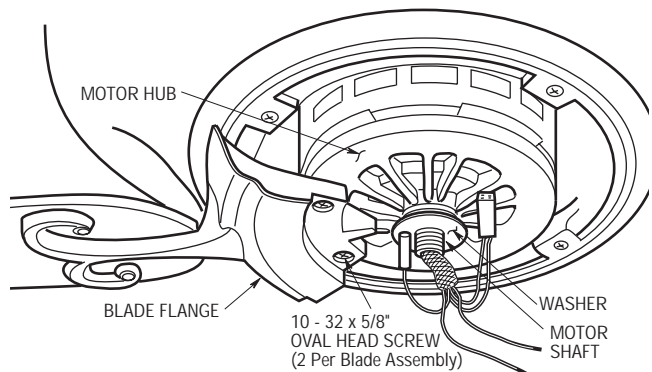

Figure 17A
- 29. Attach one blade assembly to the motor hub using two 10-32 x 5/8" oval head screws (supplied) (Figure 17A). Do not tighten completely at this time. Install remaining blade assemblies in the same way. Gently snug all flange screws to the motor hub, working around the hub in a clockwise sequence. Next, securely tighten all flange screws, again working in a clockwise sequence. Failure to follow this procedure could result in fan wobble. This completes the blade installation.
- 30. Pass the connectors and the wires from the motor shaft through the washer (supplied) and position the washer over the motor shaft (Figure 17A).